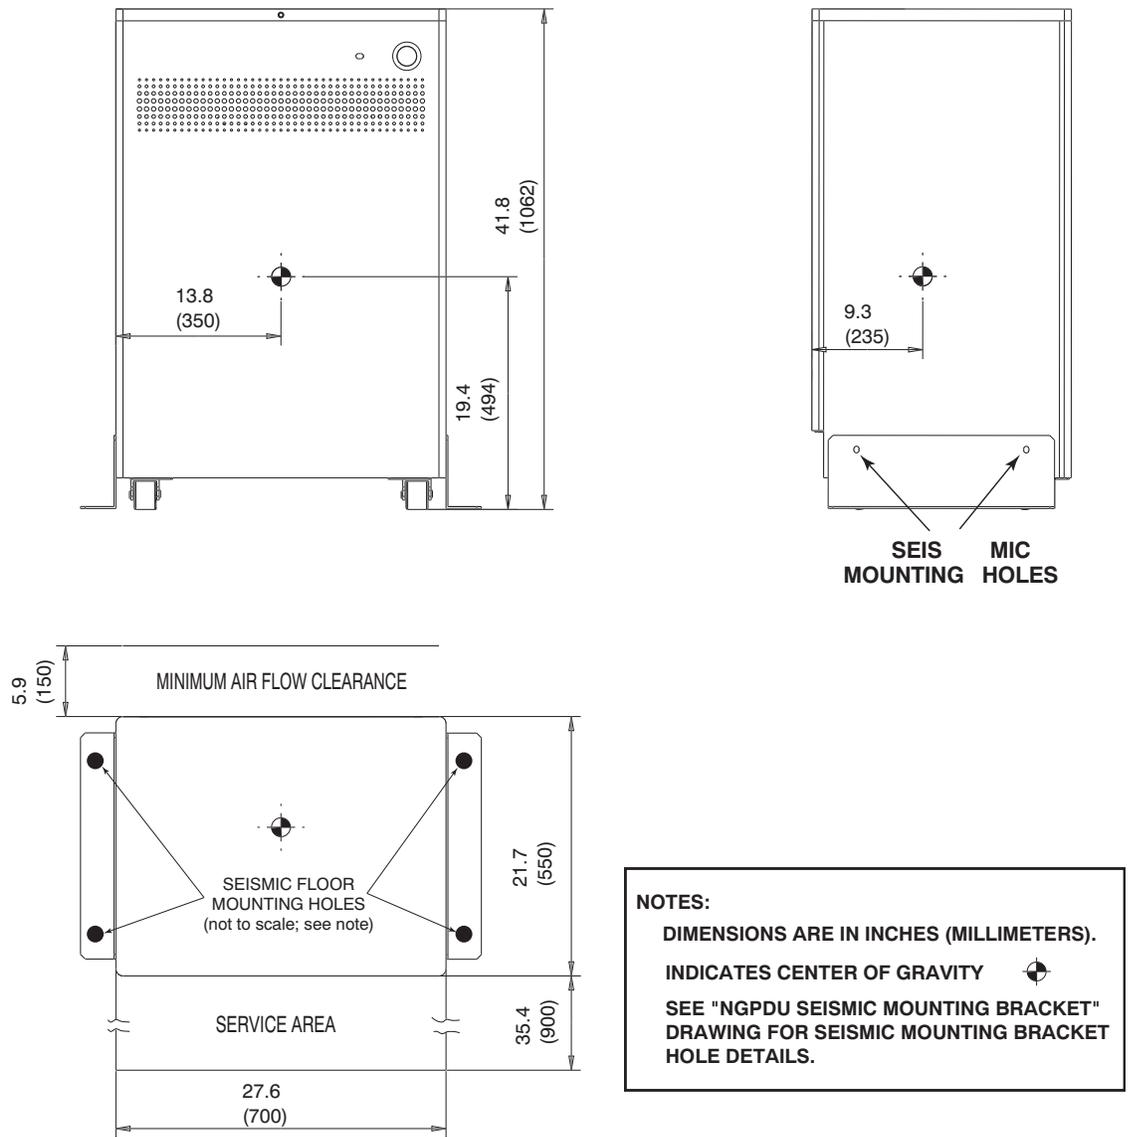

Figure 8-10 NGPDU-34 Center-of-Gravity
- Power Distribution Unit: Figure 8-10 (PDU Seismic Mounting Bracket)